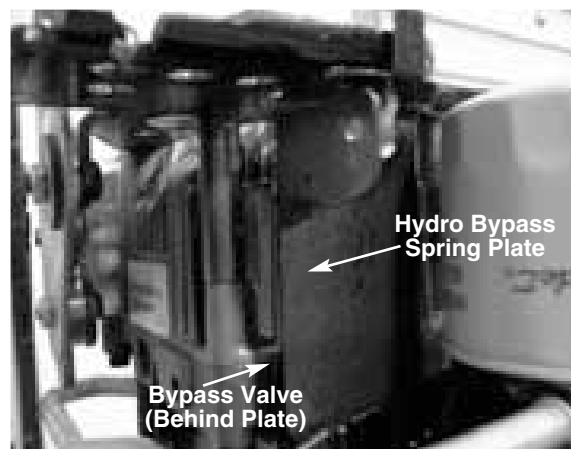

FIGURE 3.
4. Inspect the clearance between the hydro bypass spring plate and the bypass valve on the hydro pump. See figure 3.